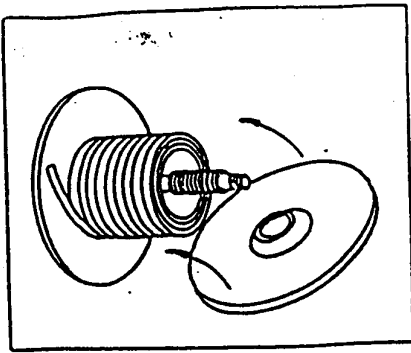

FIGURE 6
2. Mount a new coil on the lower flange. Place the upper flang by fixing the wing nut, and then remove the paper wrap from the new coil. (Fig.6)